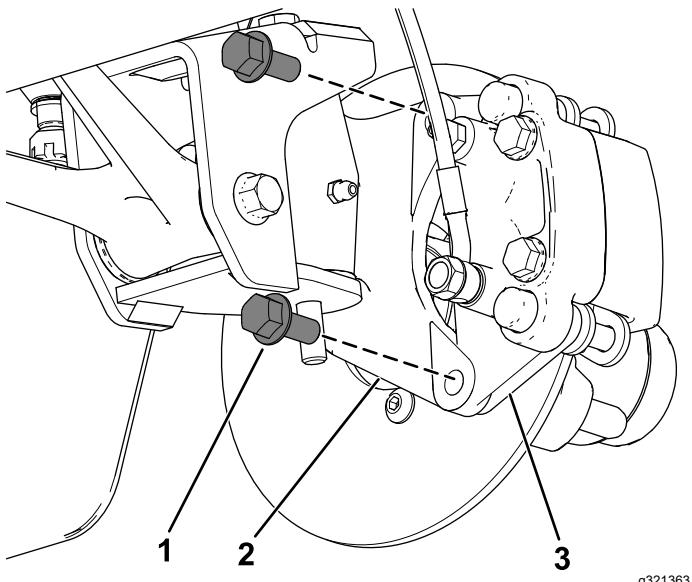
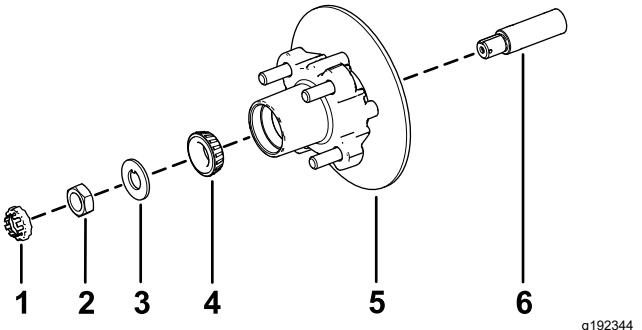

Figure 35
Figure 39
3. Remove the flange-head bolts (3/8 x 3/4 inch) that secure the bracket for the brake assembly to the spindle and separate the brake from the spindle (Figure 35).
1. Apply a light coat of the specified grease to the spindle (Figure 39).
2. Assemble the hub and rotor onto the spindle with the rotor inboard (Figure 39).
3. Assemble the outboard bearing onto the spindle and seat the bearing to the outboard race (Figure 39).
4. Assemble the tab washer onto the spindle (Figure 39).
5. Thread the spindle nut onto the spindle and tighten the nut to 15 N·m (11 ft-lb), while rotating the hub to seat the bearing (Figure 39).
2. Align the brake pads to either side of the rotor (Figure 35) and the holes in the caliper bracket with the holes in the brake mount of the spindle frame (Figure 39).
3. Secure the caliper bracket to the spindle frame (Figure 35) using the 2 flange-head bolts (3/8 x 3/4 inch).